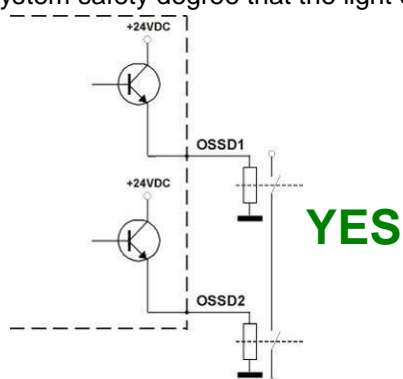

Fig. 21 – Correct connection of the load
- The OSSD1 and OSSD2 safety contacts cannot be connected in series or in parallel, but they have to be used separately (Fig. 21).